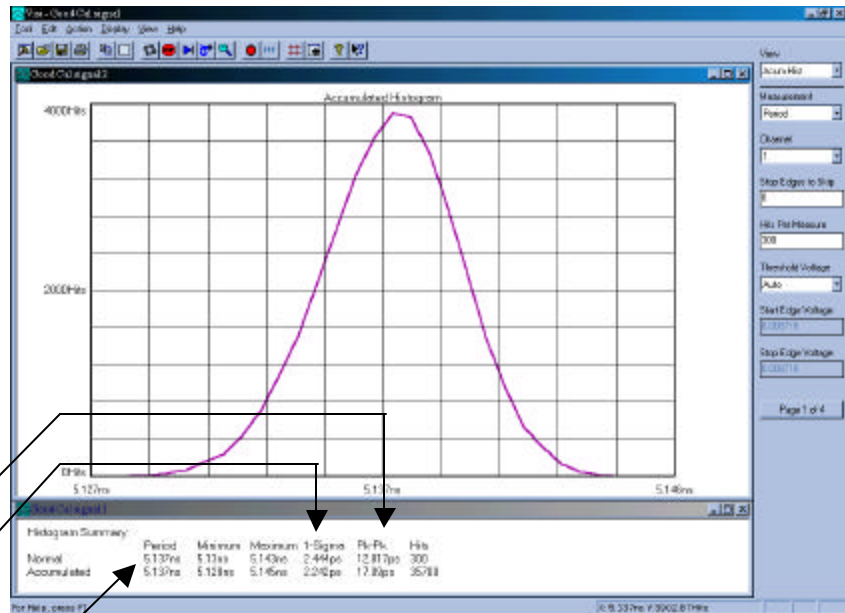
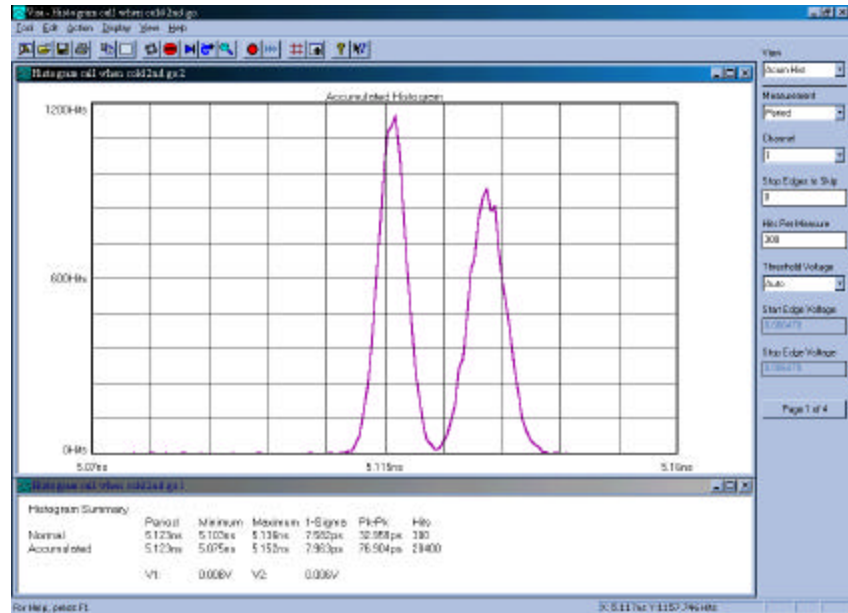

Figure 3. Good calibration
Figure 4. DTS in need of internal calibration
- The Histogram should be comparable to Figure 3.
If the histogram is not like Figure 3, but rather more like Figure 4, perform the internal and external calibrations.
Figure 4 shows a bimodal distribution. This means that there are two distinct periods. The 200MHz calibration output is a very stable filtered output oscillator which, when viewed with the Histogram tool, produces a single period distribution. A deviation from a clean, gaussian distribution indicates that the internal circuits have drifted and the calibration files no longer apply to the hardware conditions, indicating the need for Calibrations.